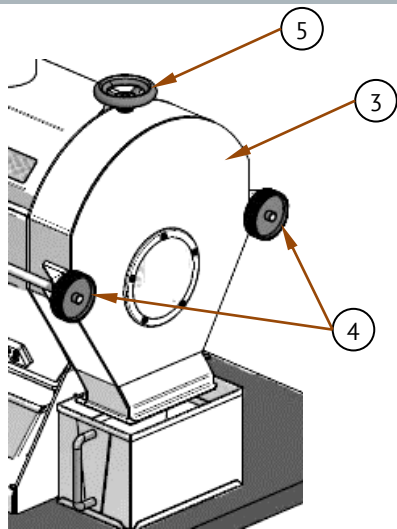

Figure 6-3: Outlet cover
- Make sure that all waste collection box and collection bins are correctly placed, and dust collection pipe (2) is connected.
- Outlet door (3) is properly closed by tightening the knurled handwheels (4). See (Fig 6-3).
- Use the hand wheel (5) on top of the machine to close the outlet gate.